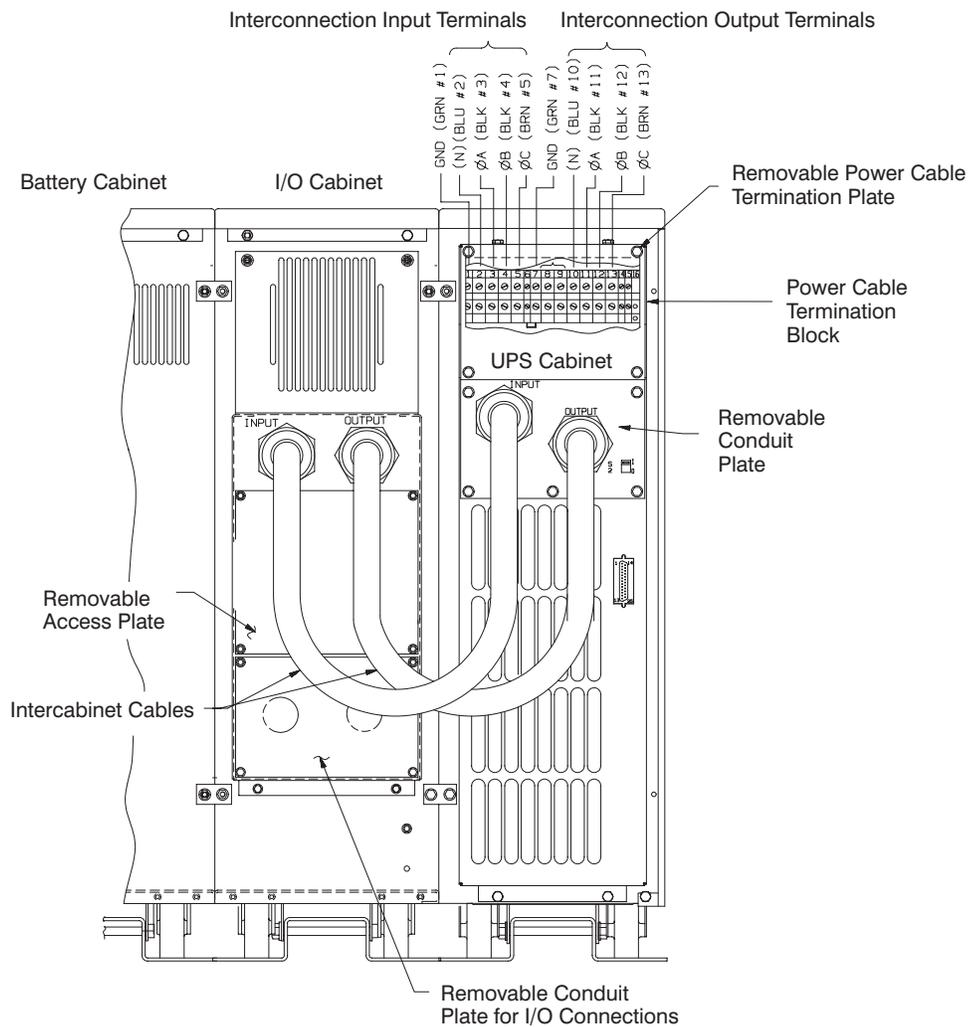

Figure 35. I/O Cabinet to UPS Cabinet Wiring (Rear View)
5. Connect the wires from the I/O cabinet to the UPS output terminal block as shown in Figure 35. See the label on the inside of the UPS for terminal block torque requirements.